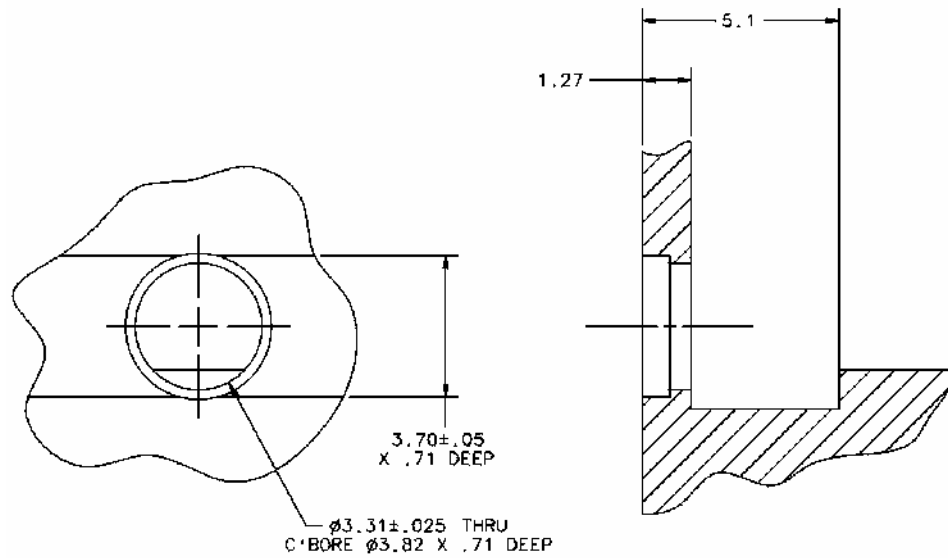

Figure 3. VP100BMS75 Mounting Hole Dimensions and Assembly for a Thin-Wall Housing
- For a thin-wall housing, place one or two solder washers over the shroud inside the housing as shown in Figure 3.